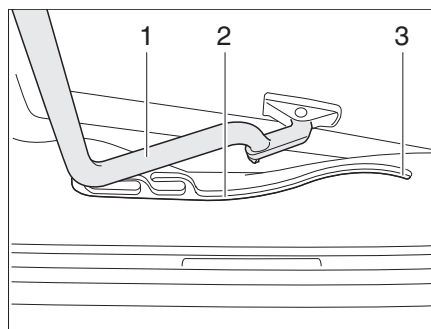

Fig. 30 Hinged skylight, guide
- Pull the bar (Fig. 30,1) in the guides (Fig. 30,2) to the rearmost position (Fig. 30,3).
- Use both hands to push the bar (Fig. 30,1) slightly upwards.
- Pull the bar in the guides (Fig. 30,2) to the desired position.